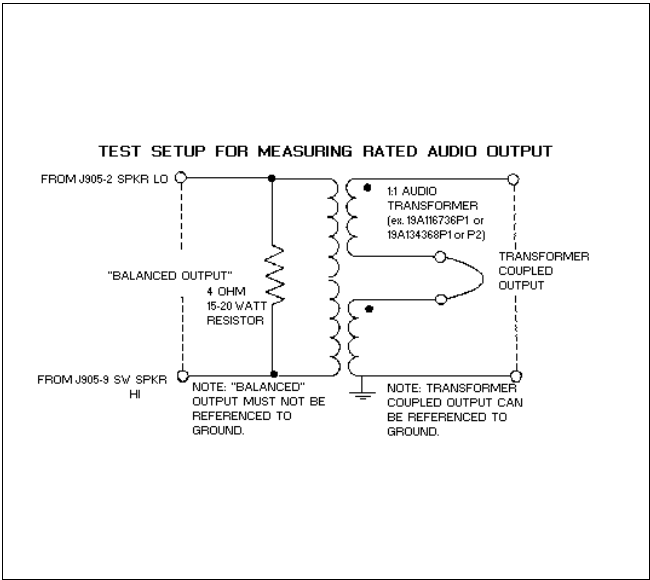

Figure 1 - Audio Output Test Setup
- 2. Check for greater than 12 dB SINAD on-channel at the Rx Audio output, on the TQ3310 or external speaker leads of option connector J905-2,9 (see Figure 1)
- 2. Monitor option connector J905-2,9 and adjust volume for 10 watts output (6.3 Vrms into 4 ohms). Distortion should be less than 5%. NOTE: The 10 watt audio output has "balanced outputs" and must be tested with the test setup shown in Figure 1.